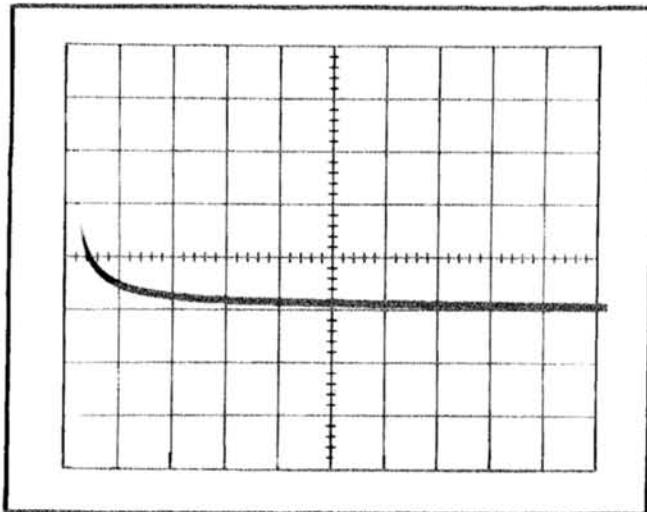

Fig. 5-8. Typical waveform showing overdrive recovery time.
- i. CHECK—The waveform as the Reed Pulse Generator Man switch is released. Readjust the Time Base Level-Slope as necessary for proper triggering. The trace should return to within 5 mV of the reference (1 division below the graticule center) within $10\ \mu\text{s}$ (5 divisions). See Fig. 5-8 for photograph of typical recovery waveform.